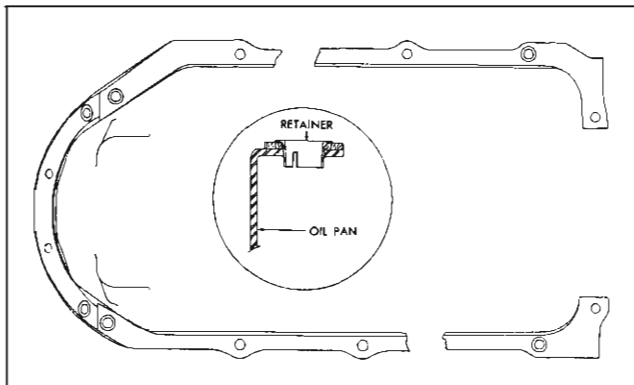
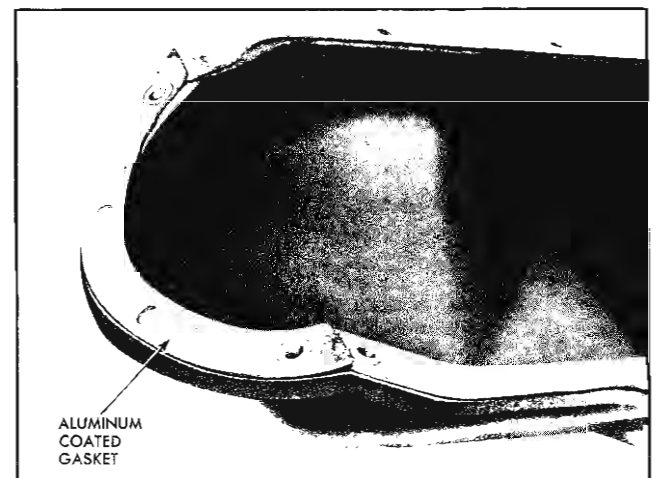

Fig. 6-49 Pan Gasket Retainer Location
Fig. 6-50 Oil Pan Gaskets Positioned for Installation
9. Apply gasket cement to gasket surface of oil pan and position new gaskets on pan using gasket retainers where shown (Fig. 6-49). Make sure front gasket overlaps side gaskets (Fig. 6-50). Retainers should be used to hold gasket in position for installation.